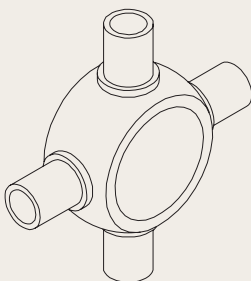

Fig. 13.13 Exercise 2
2. Using the tools **Sphere**, **Box**, **Union** and **Subtract** and working to the dimensions given in Fig. 13.14, construct the 3D solid model as shown by the isometric drawing in Fig. 13.13.